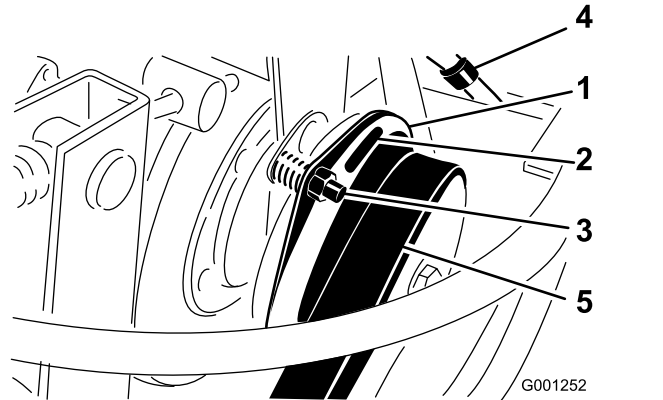

Figure 74
3. Adjust the air gap so that a 0.4 mm (0.015 inch) feeler gauge slides in between the clutch lining and friction plate with light pressure (Figure 74).
Note: You can decrease the gap by turning the adjusting nut clockwise (Figure 74). The maximum service gap is 0.7 mm (0.030 inch). Adjust all 3 air gaps.